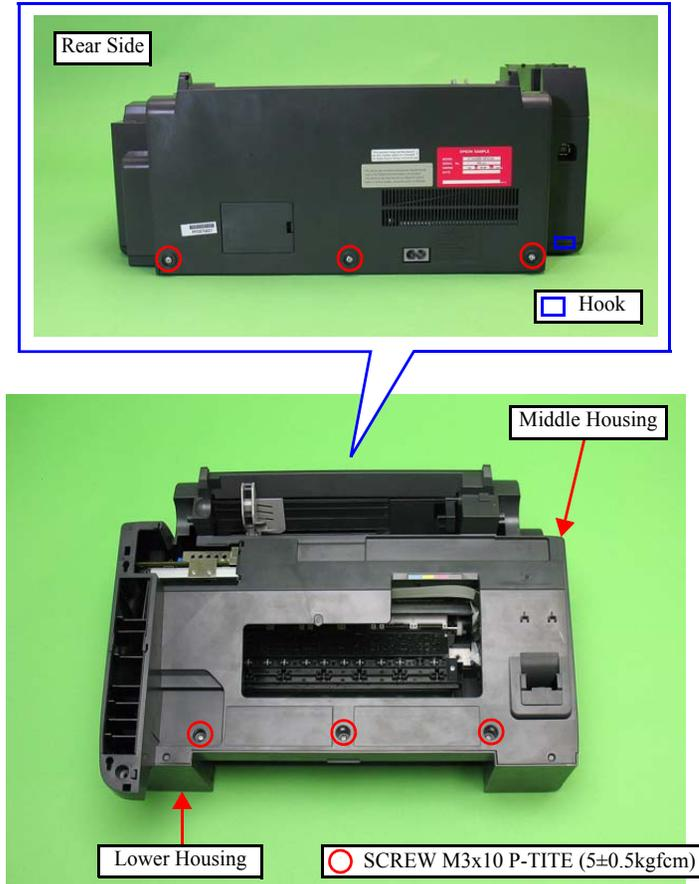

Figure 4-15. Removing the Middle Housing (1)
2. Release the two hooks on the left, two hooks on the right, and the hook on the rear (see Fig.4-15), then remove the Middle Housing from the Lower Housing.